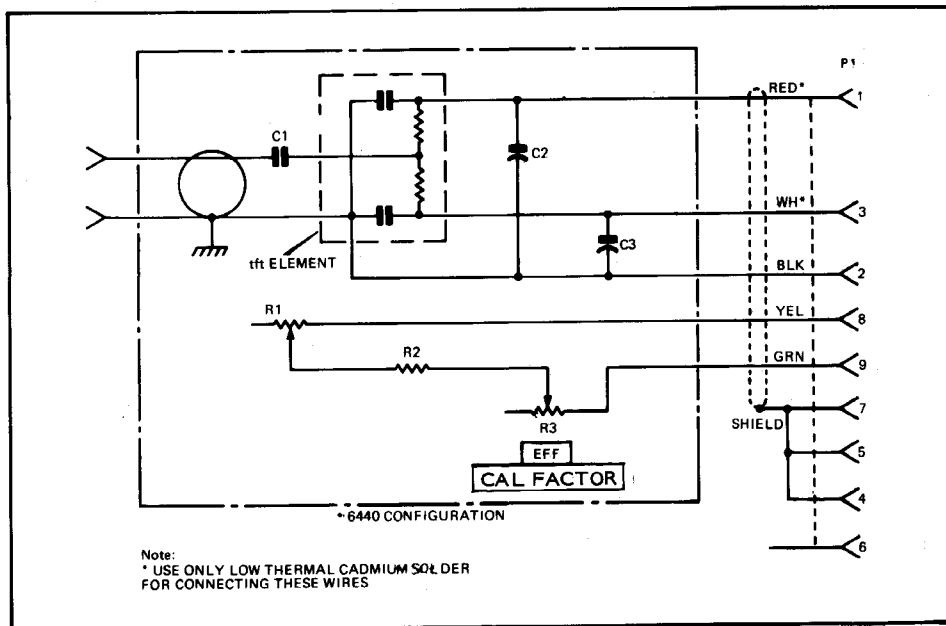

Figure 6 Circuit Diagram for Type 6440 Series
- (d) The angular rotation of Eff.Eff./Cal.Factor control should not exceed 270 degrees of arc. If the control can be rotated continuously in one direction and the resistance reading is erratic the variable resistor R3 (see Circuit fig. 6) is defective and should be replaced.
With an r.f. standard, a known level of power from a well-matched source (VSWR less than 1.02) should be established. A level, close to the maximum rating of the tft Power Head, is best to minimize drift and noise. The VSWR of the tft Power Head should be measured at the calibration frequency and the return loss computed. With the tft Power Head connected to the tft Power meter (e.g. 6460) and the efficiency control set to 100% apply the r.f. signal and adjust the the calibration potentiometers R1 (see figure 6.) to produce the desired reading including correction for the return loss. The calibration potentiometer is available at the rear of the Power Head housing by removing the metal plug.